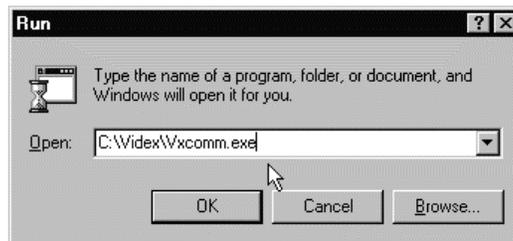

Figure F-2 Add Vxcom Parameters
- 8) Locate and open the **Vxcom** program. Click at the end of the path name to add the parameters (Figure F-2).